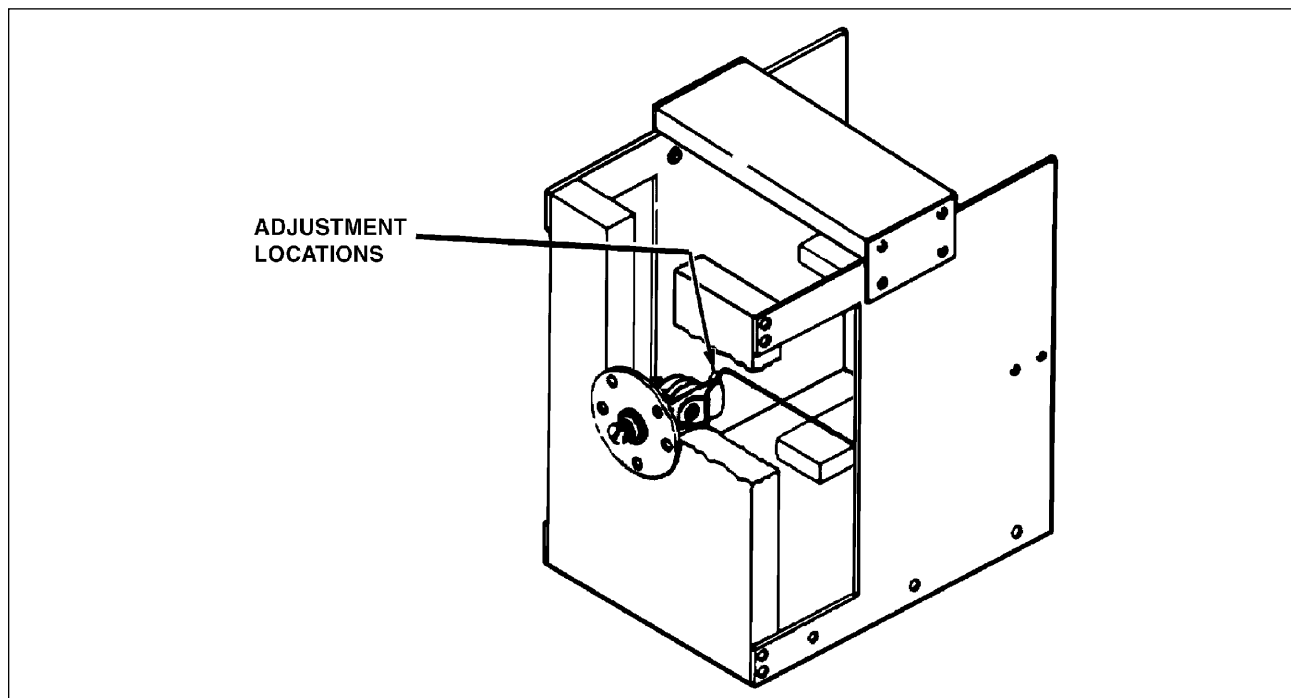

Figure 9-7a. Fuel Quantity Transmitter (P/N 548-671; Rochester Gauges)
2. Ascertain that with the float just touching the top of a 0.27 in. spacer block, the resistance of the sending unit is 3 ± 0.5 ohm. Should the resistance of the sending unit not fall into this range, adjust the arm of the float assembly by gently bending it as indicated in Figure 9-7a. The entire float must be horizontal to the base of the fixture.